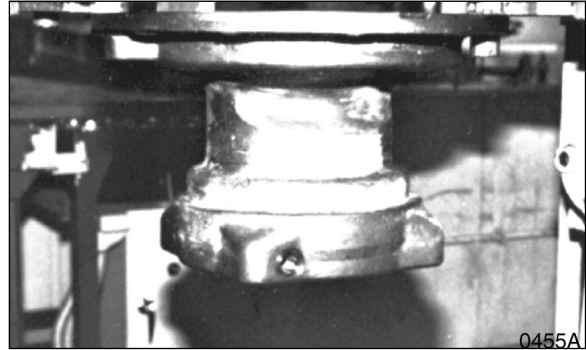

Figure 26
1. Position motor casing face down (Figure 26).